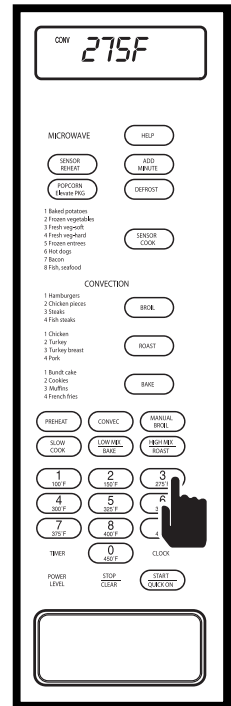

Figure 3-87.
3. To change temperature, press the number 3 key, “275F - PRESS - START ” will flash on display. (See Figure 3-87)